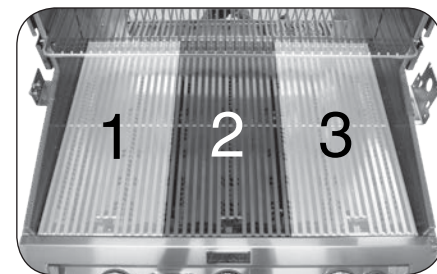

Fig. 25-2 Cooking zones detail
Your grill is divided into three cooking zones, each corresponding to a burner. Burners are numbered starting at one (1) on the left, going to three (3) on the right (see Fig. 25-2). The cooking zones are monitored by the digital thermometer - see DIGITAL THERMOMETER section.